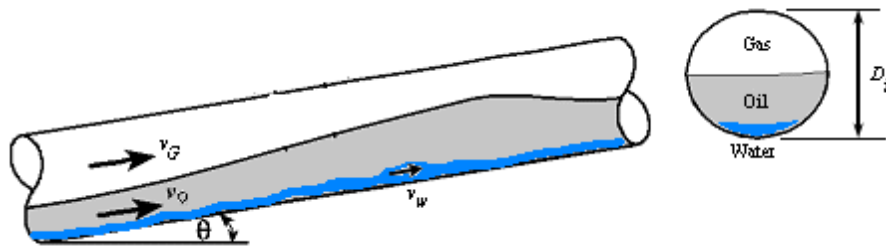

Figure 1. Schematic representation of gas-oil-water flow
- **Inclination:** the angle ( $\theta$ , Figure 1) between the pipe and the horizontal plane.